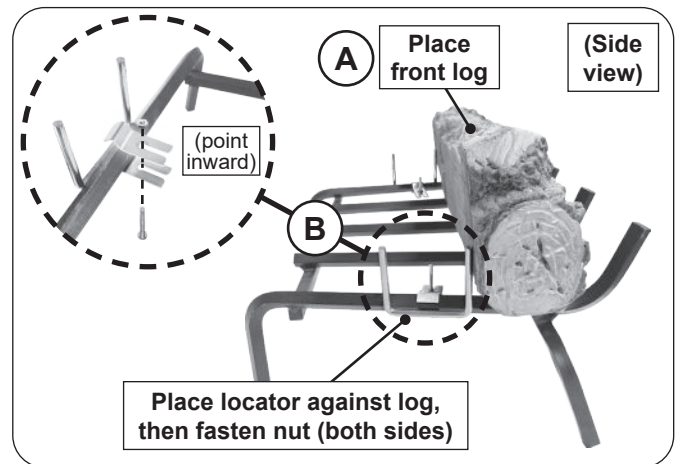
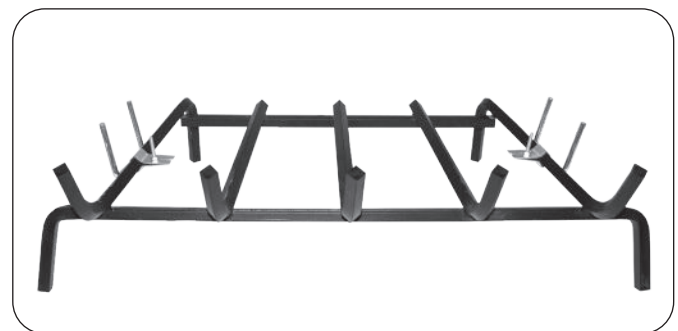

Fig. 13-1 Attach log locators to grate
Fig. 13-2 Log locators attachment detail
2. Temporarily place the front log at the front of the grate as shown in Fig. 13-1, A (to correctly determine the log locator position).
3. Attach the log locators to the 2 outer bars of the grate using the provided screws and nuts. See Fig. 13-1, Fig. 13-2, and the guidelines below.